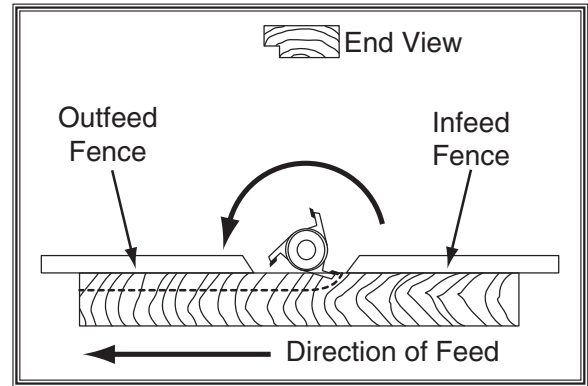

Figure 33. Fence set up for partial-edge removal.
Also, examine the grain on the side edge of the board. Whenever possible, run the board so the shaper cutters are cutting with the grain, as shown in **Figure 33**. This will minimize the chance of tear-out.
4. Adjust the outfeed fence so that it comes into alignment with the infeed fence, as shown in **Figure 33**.